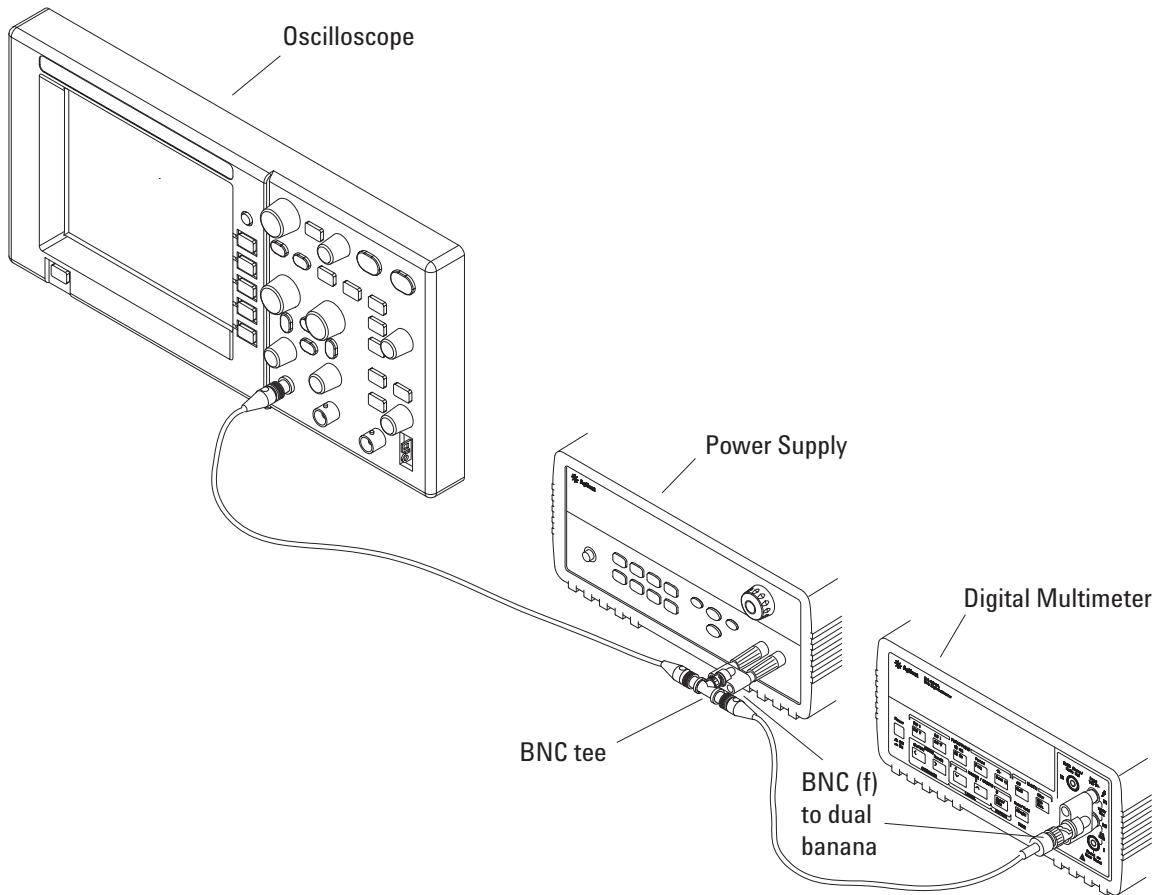

Figure 54 Connecting Equipment for DC Gain Accuracy Test
- 11 Connect the equipment as shown in Figure 54.